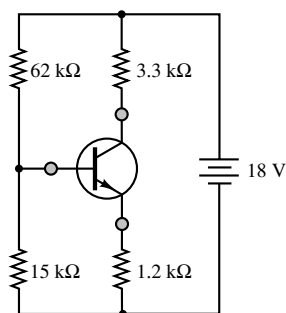

Figure P10.6
- 10.6** Given the circuit of Figure P10.6, determine the operating point of the transistor. Assume a 0.6-V offset voltage and $\beta = 150$. In what region is the transistor?